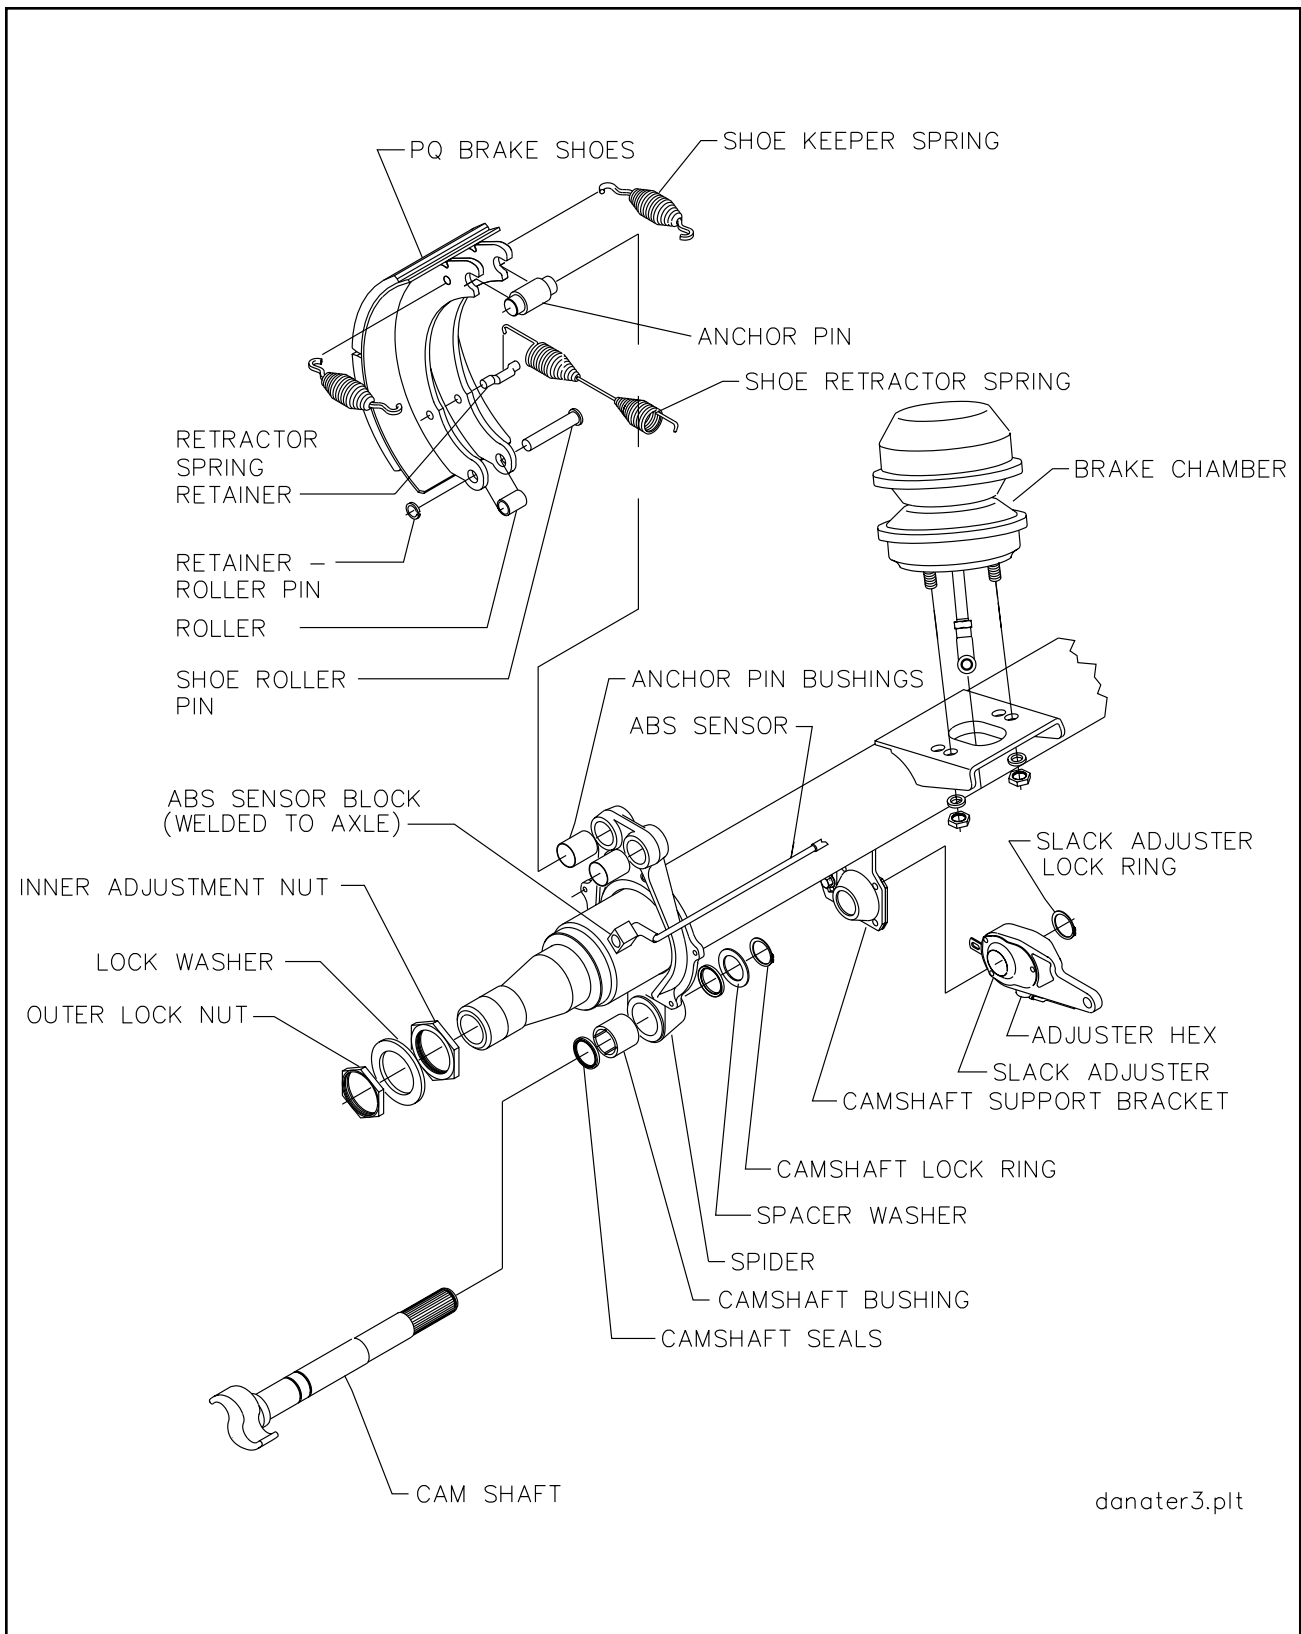

Figure 4-3 Axle and Brake Assembly
b. Disassembly for Brakes (See Figure 4-3)
3. Remove drum assembly (See Figure 4-3).
c. Reassembly for Brakes (See Figure 4-3)